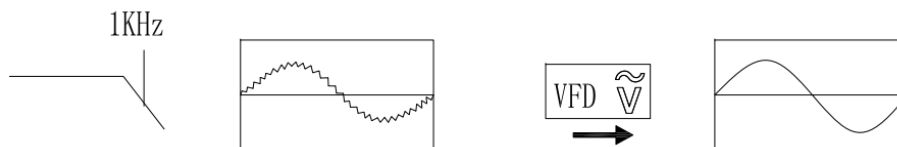

Figure 6
- 4) In the AC voltage range, the VFD low-pass filter function can be selected by pressing SELECT to measure the composite sinusoidal signal generated by the inverter and inverter motor, as shown below (Figure 6)